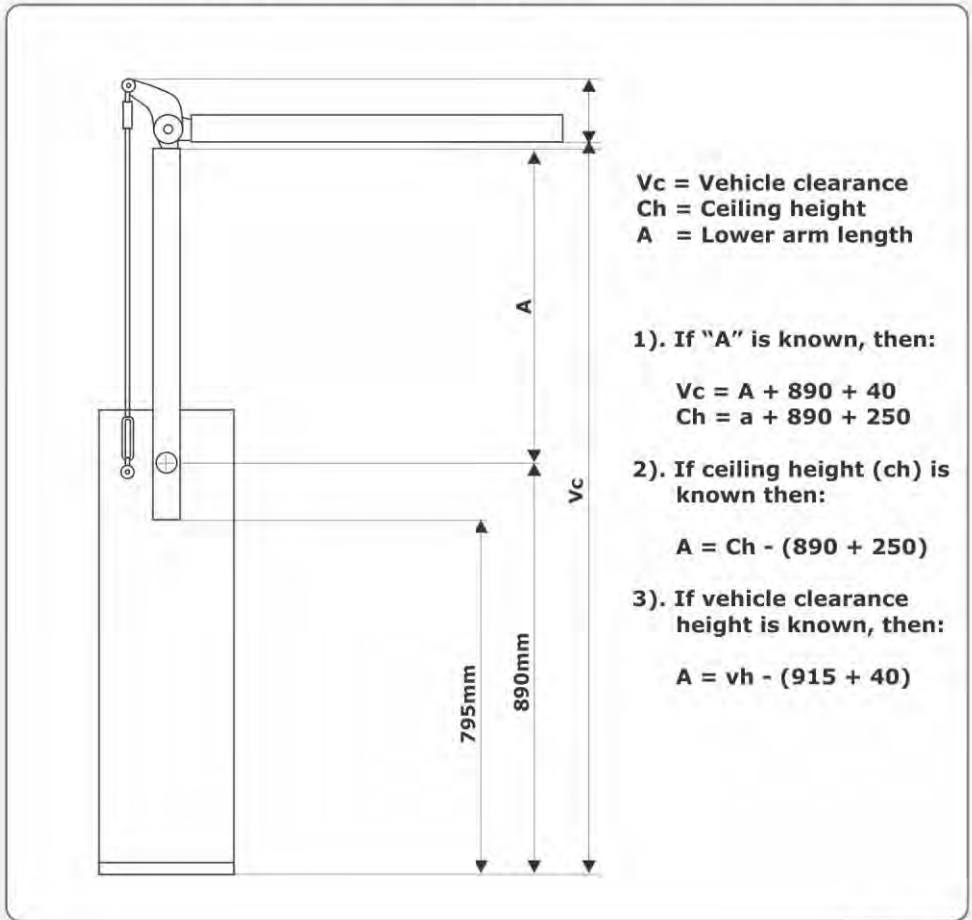

FIGURE 5
- Figure 5 shows the recommended minimum clearance when fitting the SECTOR jack-knife assembly, giving an indication of the length that inner pole should be cut to